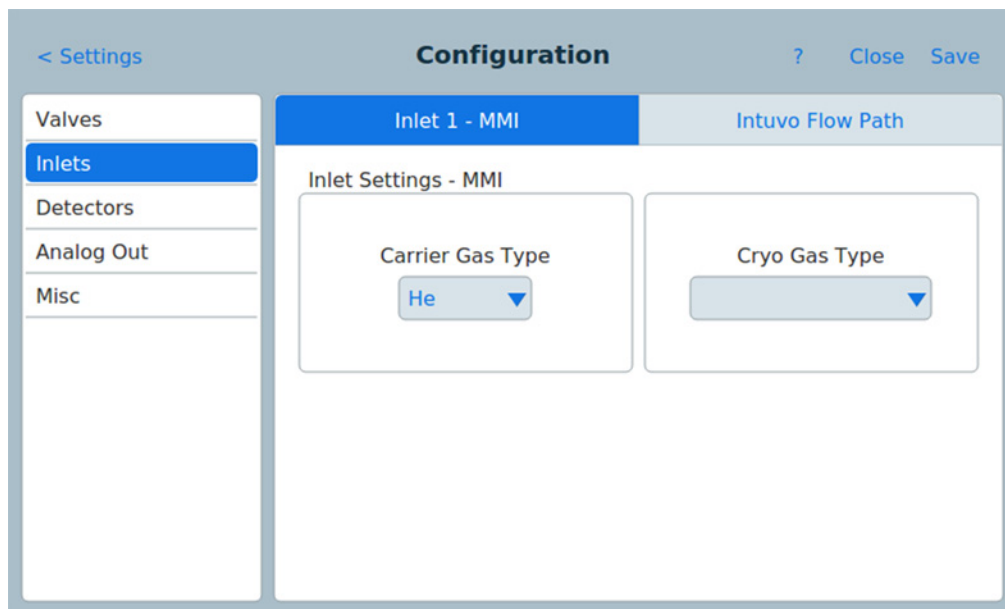

Figure 56 Inlets page
- 3 Press the **Inlets** device type from the list on the left side of the screen. The properties for the selected device type appear on the right side of the screen. See Figure 56.